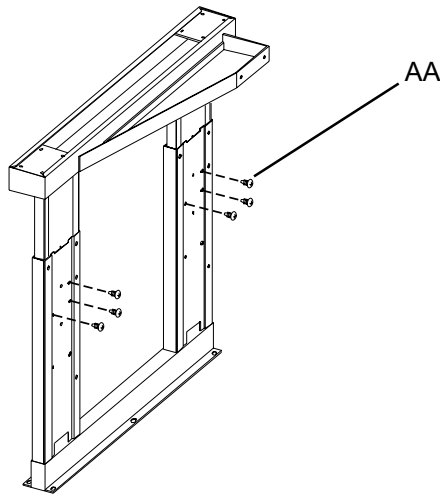

FIGURE 1
Determine desired final height of table, (**NOTE:** Allow 6" for casters), and set desired height. Install screws (AA) in each leg (**Figure 1**). Lay wood top on a clean flat surface with holes facing up (top of carton works well). Position legs with holes facing inward on wood top and loosely attach with screws (BB) and washers (CC) as shown in **Figure 2**.